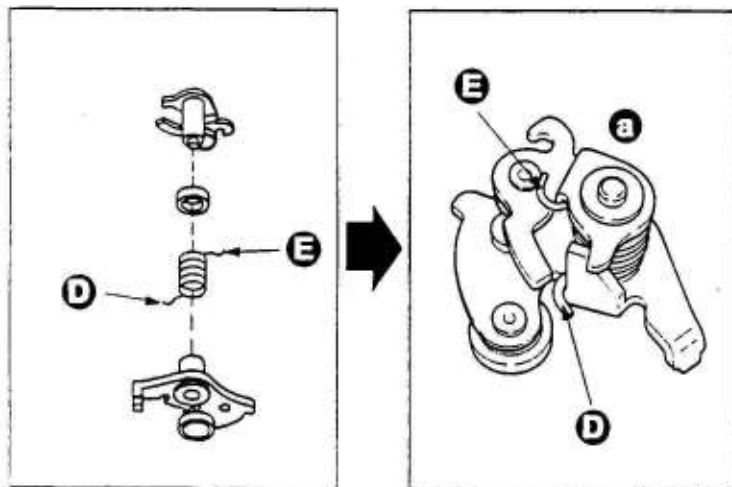

Fig.3
5. Insert the coupler plate ⑧ so that its positioning hole ⑨ will fit to the hole ⑩ in the F1 gear. (See Fig. 3.)
3. Subassemble the S. lever ass'y ③ by hitching the hooks ④ and ⑤ of the spring as shown in Fig. 3, and then install to the substrate M.